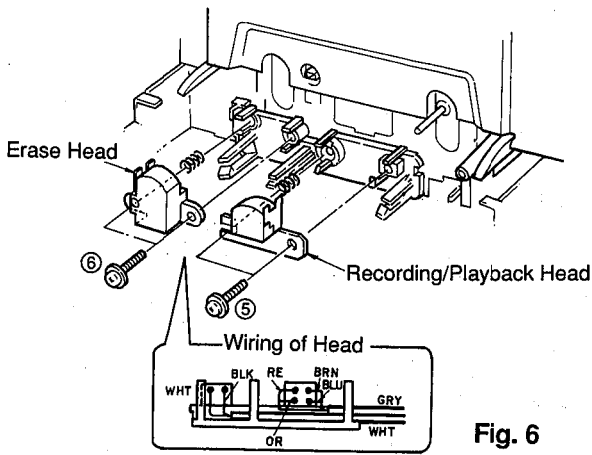

Fig. 6
- a. Remove 2 screws (⑤) in fig. 6 and then remove the Recording/Playback Head.
b. Remove 2 screws (⑥) in fig. 6 and then remove the Erase Head.